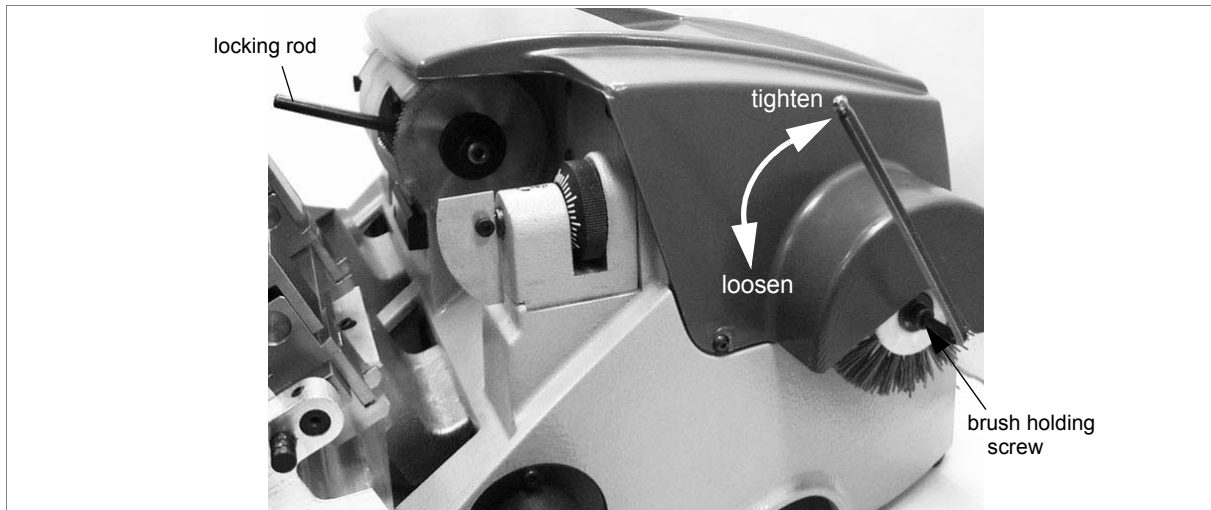

Fig. 64
- 2) Use the Allen wrench (provided) to loosen the screw holding the brush in place (fig. 64).